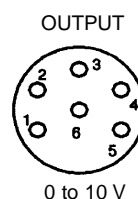

Fig. 11 Wiring of the analogue output
Socket (9/13) carries the analogue output signal (refer to Sections 2.5.5 and 2.6.5). The mating plug is supplied with the instrument. The wiring of this socket is given in Fig. 11. The pin numbers are given inside the supplied plug.
**Key to Fig. 11**